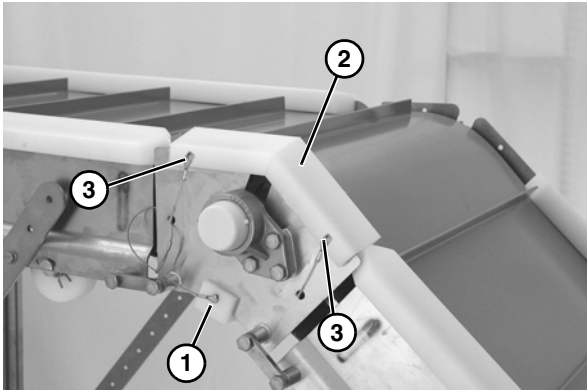
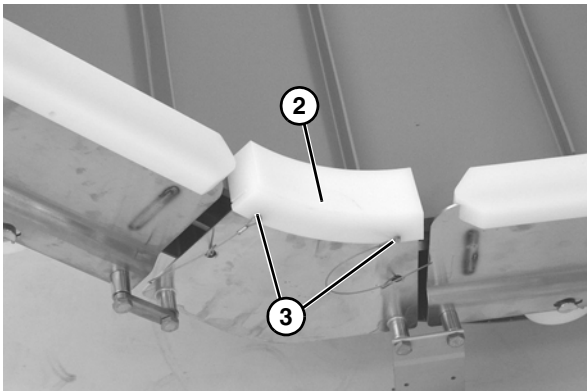

Figure 17 (Upper Knuckle)
Figure 18 (Lower Knuckle)
1. Install the return guide (**Figure 17, item 1**) and secure with push pin.
2. Slide the guides (**Figure 17, item 2** and **Figure 18, item 2**) onto the knuckle frame, and secure with two pull pins (**Figure 17, item 3**) and (**Figure 18, item 3**).